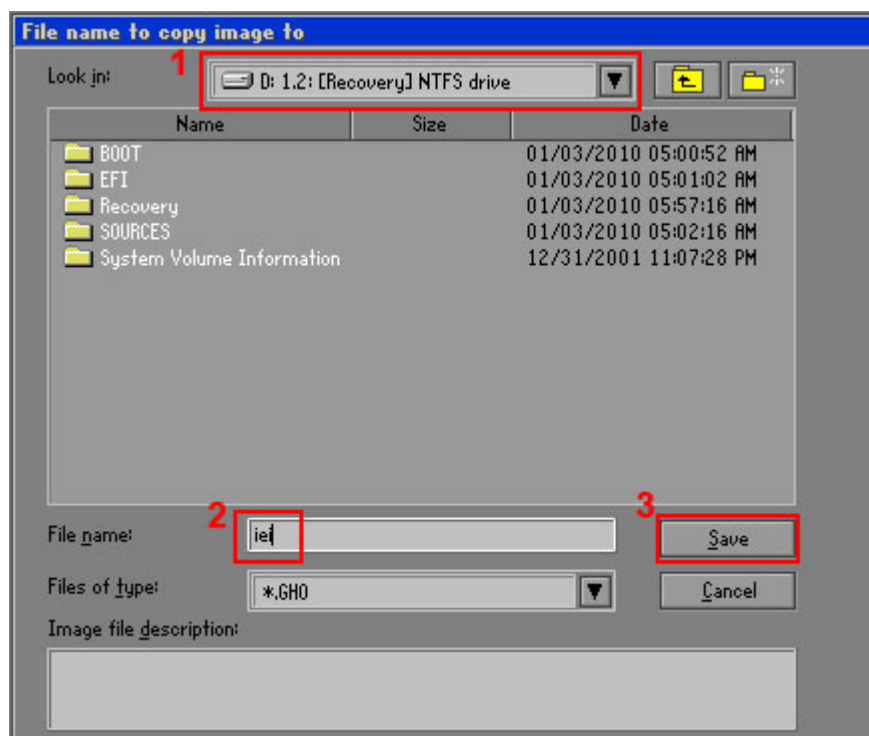

Figure A-16: File Name to Copy Image to
Step 7: Select **1.2: [Recovery] NTFS drive** and enter a file name called **iei** (Figure A-16). Click **Save**. The factory default image will then be saved in the selected recovery drive and named **IEI.GHO**.